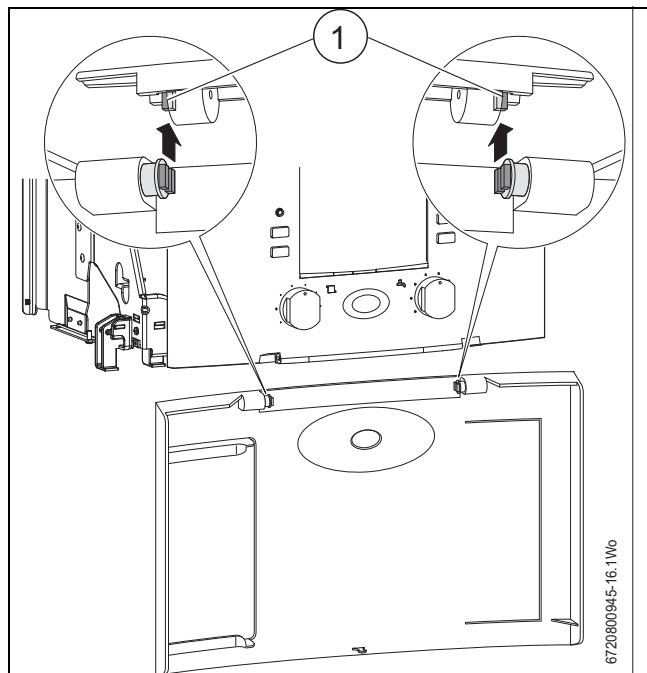

Fig. 52 Fitting the flap
- ▶ Check the orientation of dampers [1] (→ Fig. 52).